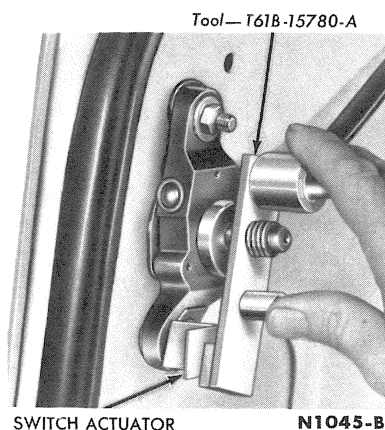

FIG. 3-27—Deck Lock Actuator Adjustment
1. Use tool T61B-15780-A (Fig. 3-27).
2. Position the tool over the lock screw (Fig. 3-27). Press the tool firmly against the lock screw shoulder.